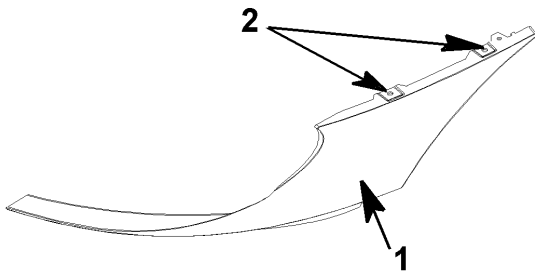

Figure 40 Valance Panel
3. Locate the two mounting bolts on the underside of the fender panel (Figure 40, Item 2).